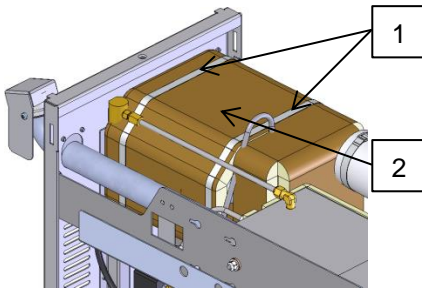

Fig. 1: Remove insulation on 250T3
4. Remove mounting straps (Label 1 → Fig. 1) and insulation (Label 2 → Fig. 1).